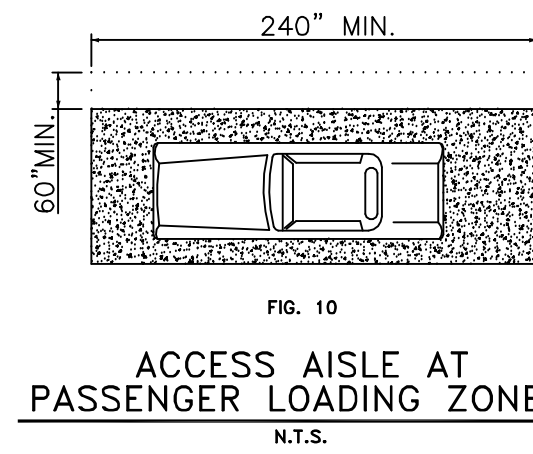

FIG. 10
**4.6.5 PASSENGER LOADING ZONES.** PASSENGER LOADING ZONES SHALL PROVIDE AN ACCESS ASLE AT LEAST 60" (1525mm) WIDE AND 20" (510 mm) LONG ADJACENT AND PARALLEL TO THE VEHICLE PULL-UP SPACE (SEE FIG. 10). IF THERE ARE CURBS BETWEEN THE ACCESS ASLE AND THE VEHICLE PULL-UP SPACE, THEN A CURB RAMP COMPLYING WITH 4.7 SHALL BE PROVIDED. VEHICLE STANDING SPACES AND ACCESS ASLES SHALL BE LEVEL WITH SURFACE SLOPES NOT EXCEEDING 1:50 IN ALL DIRECTIONS.
**4.6.6 VERTICAL CLEARANCE.** PASSENGER LOADING ZONES SHALL PROVIDE AN ACCESS ASLE AT LEAST 60" (1525mm) WIDE AND 240" (6100mm) LONG ADJACENT AND PARALLEL TO THE VEHICLE PULL-UP SPACE (SEE FIG. 10). IF THERE ARE CURBS BETWEEN THE ACCESS ASLE AND THE VEHICLE PULL-UP SPACE, THEN A CURB RAMP COMPLYING WITH 4.7 SHALL BE PROVIDED. VEHICLE STANDING SPACES AND ACCESS ASLES SHALL BE LEVEL WITH SURFACE SLOPES NOT EXCEEDING 1:50 (2%) IN ALL DIRECTIONS.